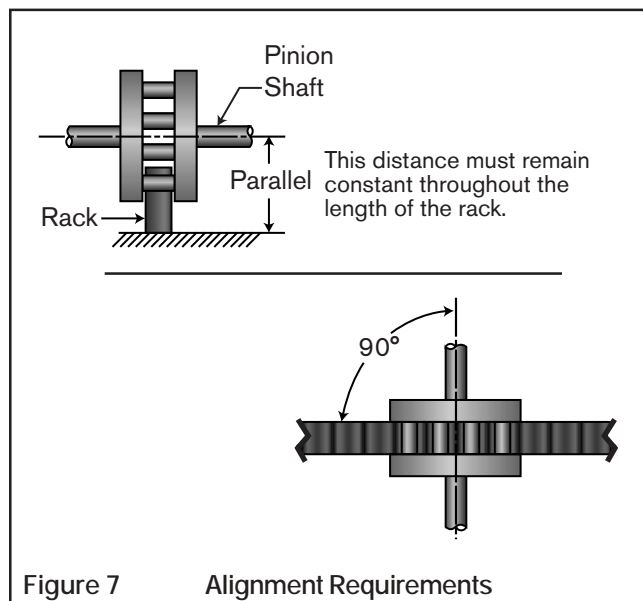

Figure 7 Alignment Requirements
- The Pinion Shaft must be parallel (± 0.03 mm [0.001 in]) to the mounting surface and the angle between the Pinion Shaft and the rack must be exactly 90° (Refer to Figure 7).